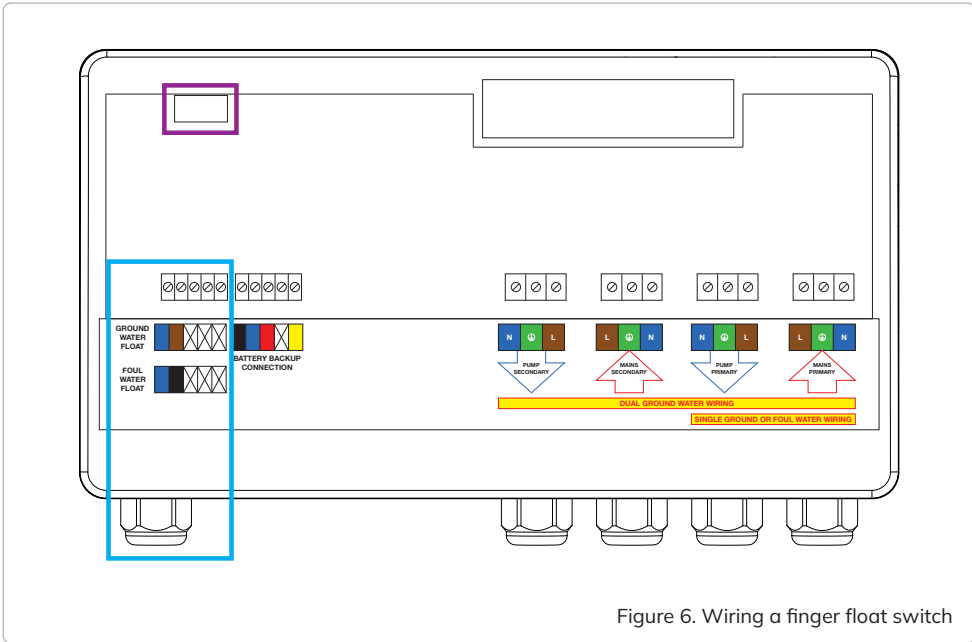

Figure 6. Wiring a finger float switch
4. Connect the blue and brown cables from the float switch cable to the terminal strip (figure 6).
See highlighted area at the top left of figure 6 (page 10) for terminal block location.